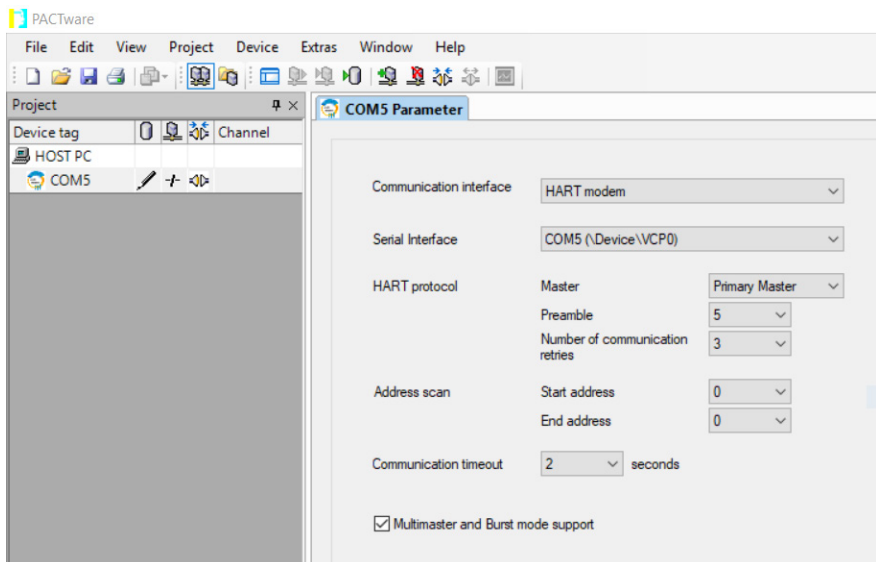

Figure 6: HART® Communication
5. Configure the parameters for the HART® Communication as shown in **Figure 6**, then select OK.